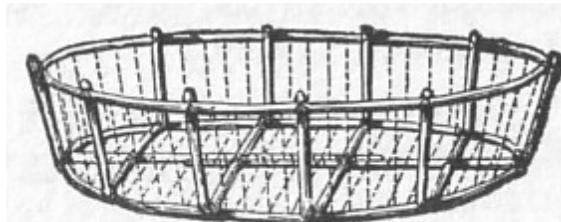

Fig. 3.
4. Bent two more main willows for gunwales for the boat, and two more for bottom rails. Each separate stick, as will be perceived by fig. 3, is lashed in five different places, and the keep in eight places.
5. Fasten a large number of little slender willow-twigs between each of the main cross-knees, as shown by the thin lines in fig. 3. It is then fit for covering. Lift it up like a basket, and turn it topsy-turvy.